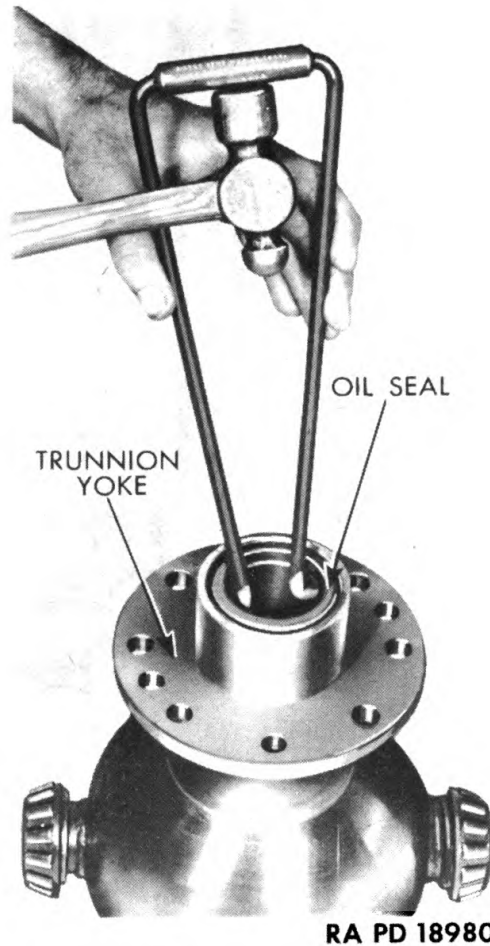
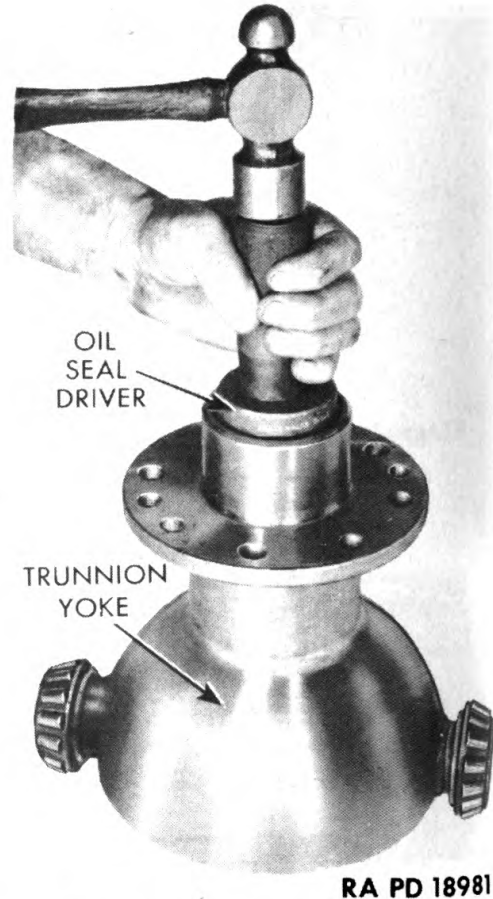

Figure 58 — Removing Trunnion Yoke Oil Seal
Figure 59 — Installing Trunnion Yoke Oil Seal
g. Oil Seal Replacement. Remove trunnion yoke oil seal from yoke (fig. 58). Install new oil seal in yoke (fig. 59). Remove trunnion yoke housing oil seal from housing, using flat drift and working around seal (fig. 60). Install new oil seal in housing, driving into place by using flattened drift, and working around edge of seal retainers.